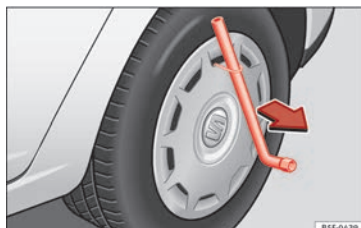

Fig. 69 Remove the wheel cover.
- Remove the wheel cover using the wire hook » » **Fig. 69**.